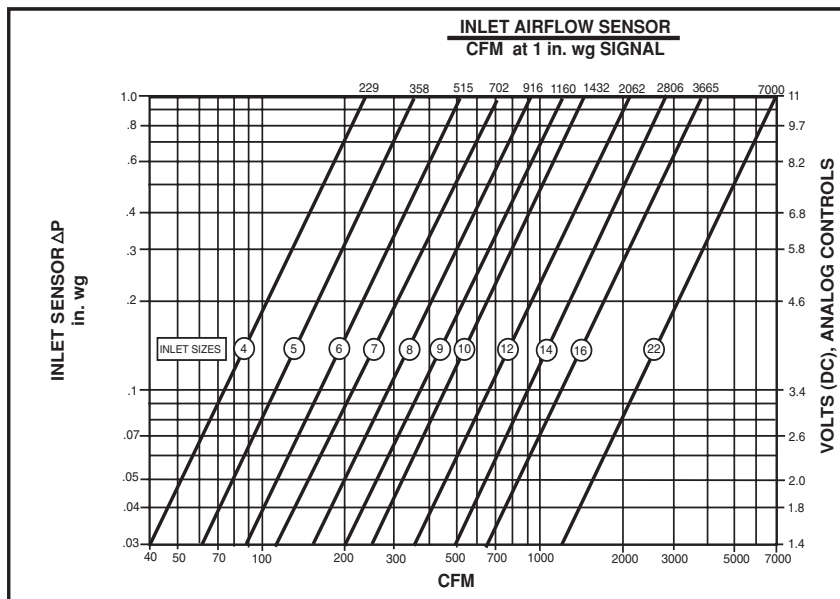

Fig. 57 — Inlet Airflow Sensor Cfm vs Signal Chart
FIELD ADJUSTMENT OF MINIMUM AND MAXIMUM AIRFLOW SET POINTS — Each 45UC underfloor terminal unit is equipped with a centerpoint averaging airflow sensor, which provides an amplified differential pressure that is proportional to the unit airflow. Output from this sensor is used to provide a flow signal to both pneumatic and electronic controls. Unit airflow (cfm) can be read directly from the airflow sensor labels on the unit. See Fig. 57 and Table 30.
- Verify that the fan can maintain the desired plenum pressure at minimum load conditions. Force the plenum temperature reference point (HSMR) to the maximum design temperature that the system was selected for (approximately 65 to 67 F). Verify return air to the terminal is at least at this temperature or greater. Allow sufficient time for the fan speed to increase. Verify that the primary air damper closes, then connect a Magnehelic gage to the terminal's primary airflow pickup probes. Using Fig. 57 (provided with the terminal), manually adjust the primary air damper position to achieve the desired minimum primary airflow for ventilation. From the Points Display Table (POINTS), read the actual damper position (DMPPPOS) and configure the minimum primary air damper position (MIN_VENT) in Table 9.